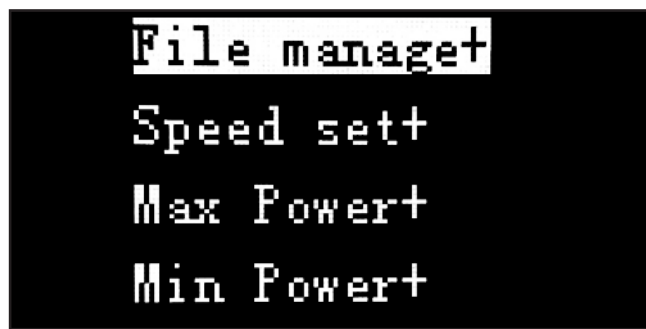

Figure 53. Main menu screen.
15. Press Menu button. Main menu screen will open (see **Figure 53**).